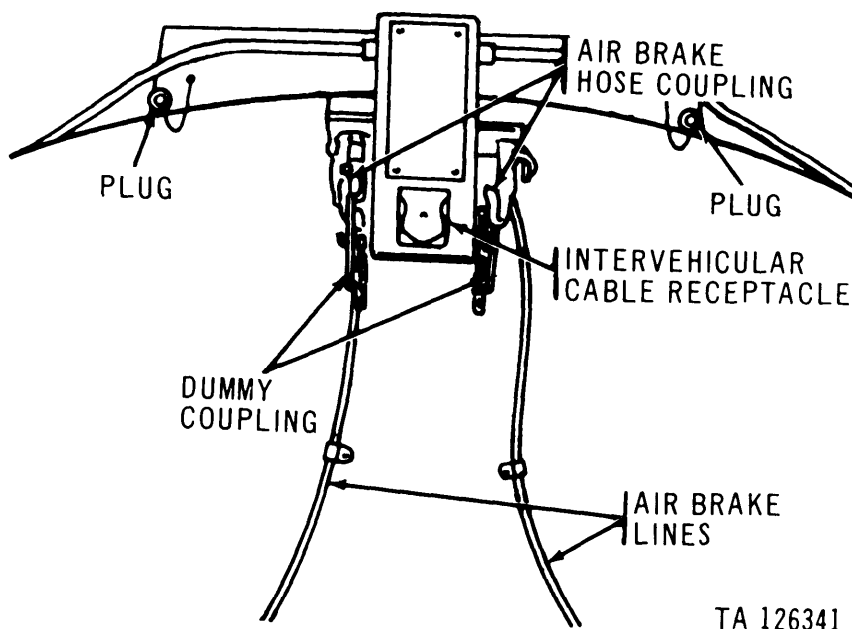

Figure 2-2. Front of semitrailer.
c. Remove the dummy couplings (fig 2-2) from the air line connectors on the semitrailer. Connect the towing vehicle air hose lines to the semitrailer. The air connections on the semitrailer are tagged EMERGENCY on the right side and SERVICE on the left side. Make sure the hose lines are properly connected, EMERGENCY to EMERGENCY and SERVICE to SERVICE. Open the air line shutoff valves on the towing vehicle. Apply the brakes at the towing vehicle to prevent movement of the semitrailer and towing vehicle.
d. Plug the intervehicular cable from the towing vehicle into the receptacle (fig 2-2) on the nose of the semitrailer. Operate the light switch at the towing vehicle and check to make sure all lights are in proper working order.
d. Unplug the intervehicular cable of the towing vehicle from the receptacle (fig 2-2) located on the nose of the semitrailer.
e. Close the air line shutoff valves on the towing vehicle. Uncouple the air hose couplings (fig 2-2) from the semitrailer. The semitrailer brakes will set automatically when the EMERGENCY air line coupling is uncoupled. Fit the dummy couplings on the semitrailer air line couplings.